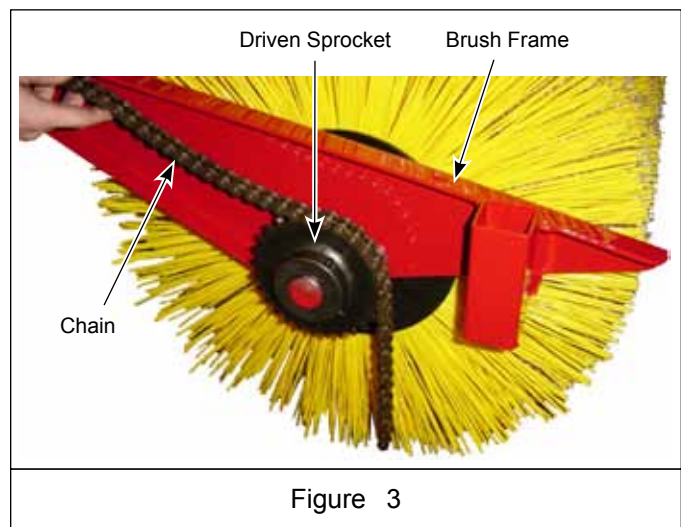

Figure 3
4. Remove chain half-link and clip to disconnect chain ends. Remove drive chain. See Figure 3.
4. Install chain over drive motor sprocket and driven core sprocket and connect with chain half-link and clip. See Figure 3.